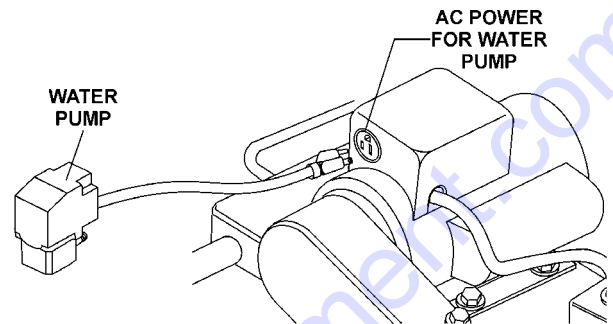

Figure 6. Water Pump Power Connection
5. Insert the water pump **power plug** into the outlet receptacle on the electric motor conduit box as shown in Figure 6.